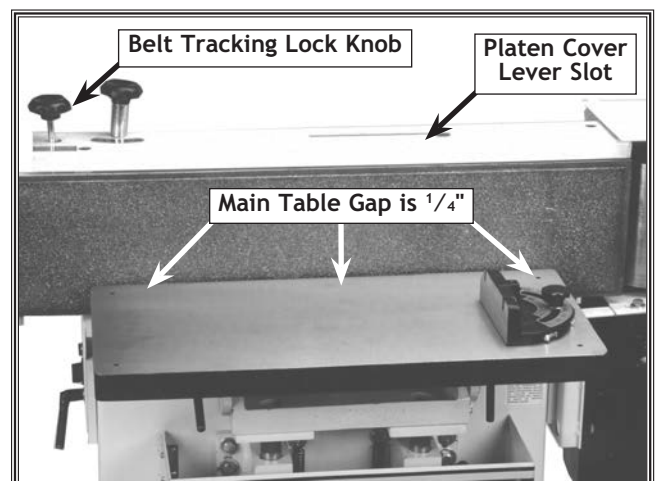

Figure 16. Main table gap.
9. Slide the main table toward the platen so the table-to-platen gap is no more than $\frac{1}{4}$ " at both ends of the platen. See **Figure 16**.
1. Loosen the belt tracking lock knob. See Figure 16.
2. Slide the quick release lever through the platen cover lever slot. See Figure 16.